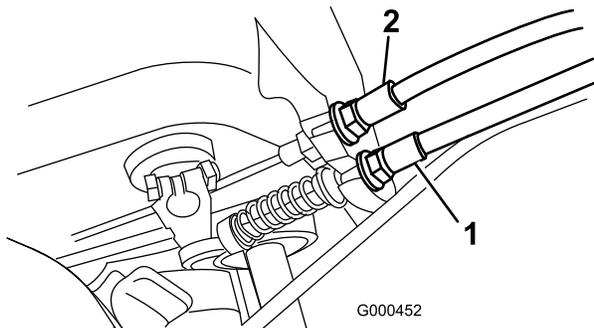

Figure 49
2. To increase cable tension, loosen front cable jam nut and tighten back cable jam nut (Figure 49) until a force of 10-13 lbs. is required to engage traction control.